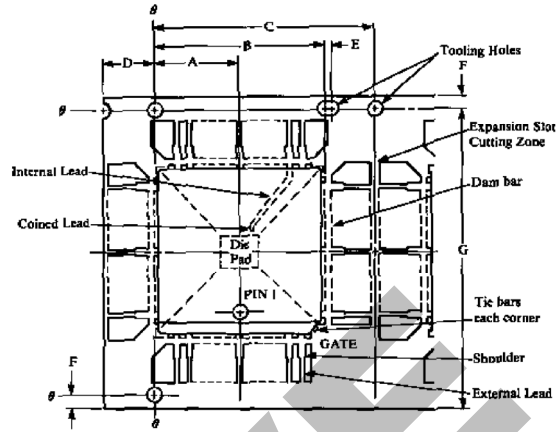

Figure 6
stamped leadframe terminology — (See Figure 6.)
6.1 *Dimensional Tolerances* — See Figure 6.